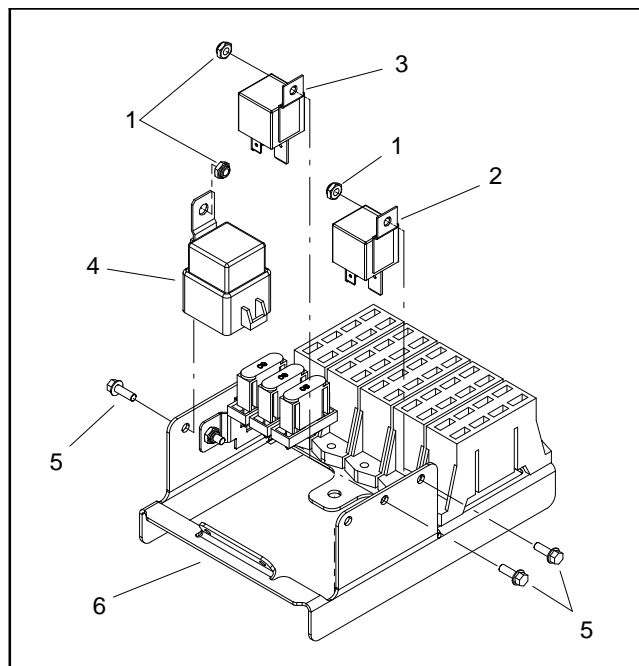
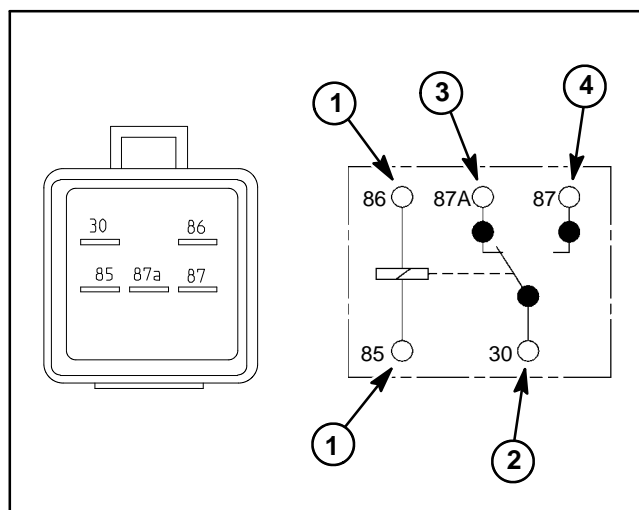

Figure 42
Figure 43
The start relay is located at the power center behind the operator seat (Fig. 42). This relay is attached to the wire harness with a five (5) wire connector (Fig. 43).